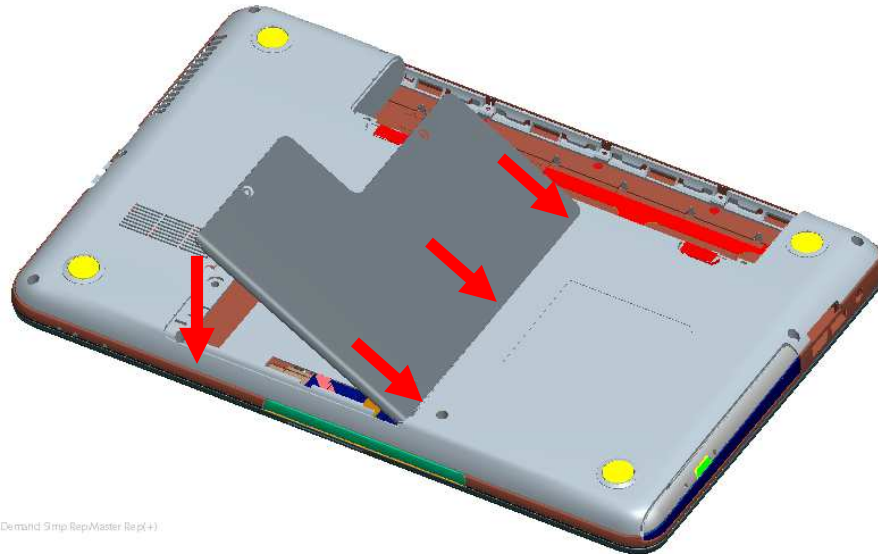

Figure 4-3-2 Initial Position
1. Put Ram Door at initial position.(See Figure 4-3-2)